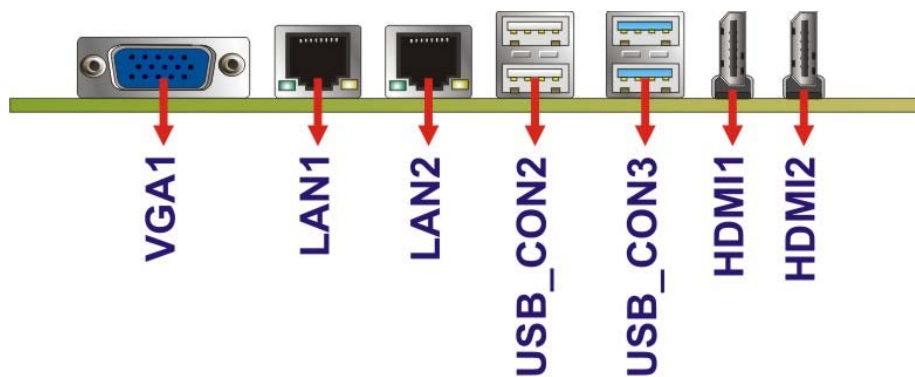

Figure 3-20: NANO-HM651 External Peripheral Interface Connector
Figure 3-20 shows the NANO-HM651 external peripheral interface connector (EPIC) panel. The NANO-HM651 EPIC panel consists of the following:
CN Location:	See Figure 3-20
- CN Location:** See **Figure 3-20**
CN Location: See **Figure 3-20**